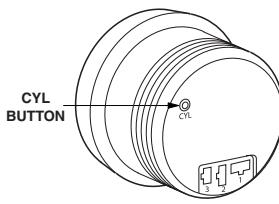

Figure 4
2. Remove power from the tachometer (turn ignition switch off). Press and hold the CYL button (small RED button on rear of tachometer, see Figure 4), then apply power to the tachometer (turn ignition switch on).